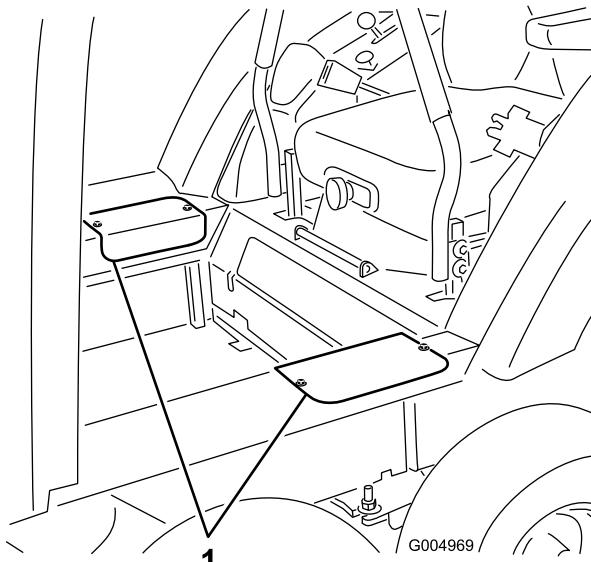

Figure 126
42. Install the side access covers with the screws previously removed (Figure 126).